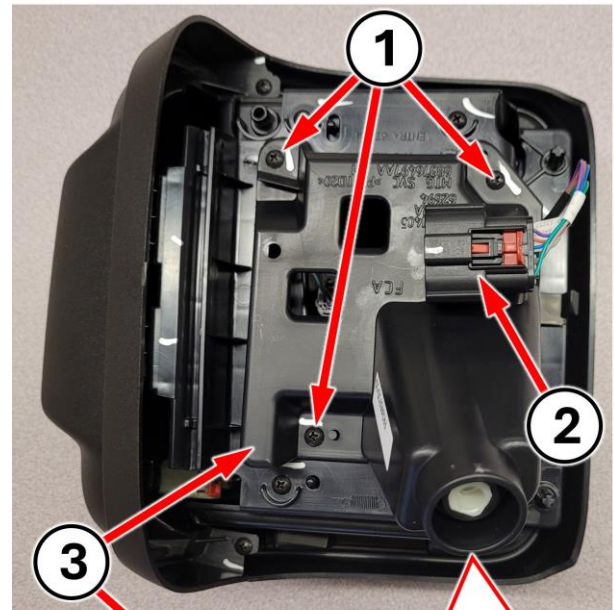

Figure 7 – Lamp Mounting Bracket
1. **Both NEW and OLD lamps:** Leave the electrical connector (2) attached to the mounting bracket (3) it is not necessary to remove it (Figure 7).
2. **Both NEW and OLD lamps:** Remove the three screws (1) securing the lamp mounting bracket (3) (Figure 7).
3. **Both NEW and OLD lamps:** Release the mounting bracket (3) from the retainer (4) (Figure 7).